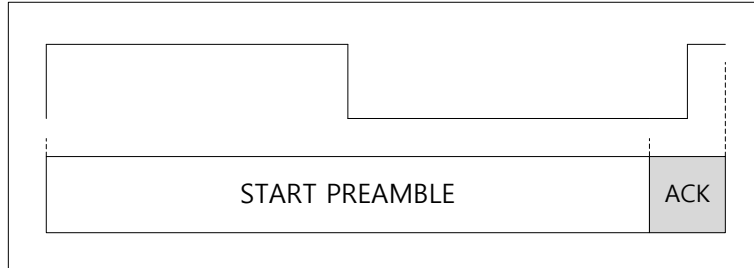

Figure 9-3. Start Preamble Structure
Figure 9-3 shows the START PREAMBLE structure of ALPU-P. ALPU-P transmits true(1) value for acknowledge, if the ALPU-P receive a correct START PREAMBLE.